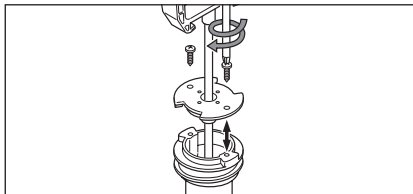

Figure 12. Replace the Pump Cap
4. Insert the pump handle assembly into the barrel. Align the holes in the pump cap and barrel. Reinstall the screws and tighten securely. See Figure 12.